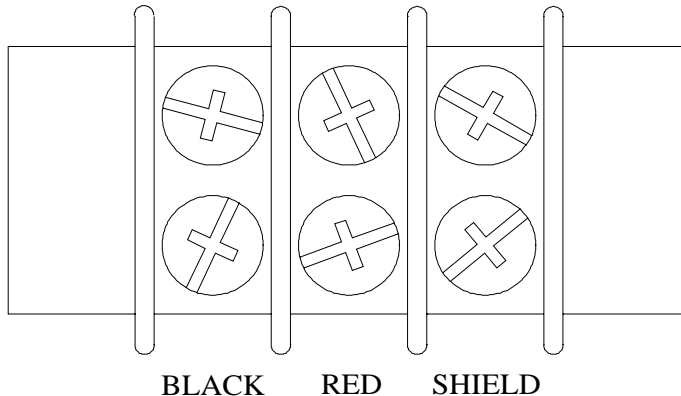

Figure 11 T1 WIRING DIAGRAM
3. Connect the control cable to terminal strip T1 (located to the left of the test jack S9) according to the diagram in figure 11.